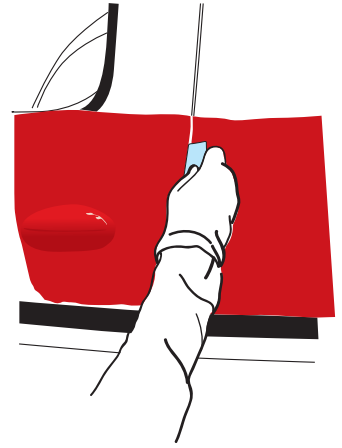

Figure 31
- › To finish, run the squeegee over the cut. Incline the squeegee towards the thinner edge (FIG. 31). Firmly apply over the edges, round parts and neighbouring or opposed areas.